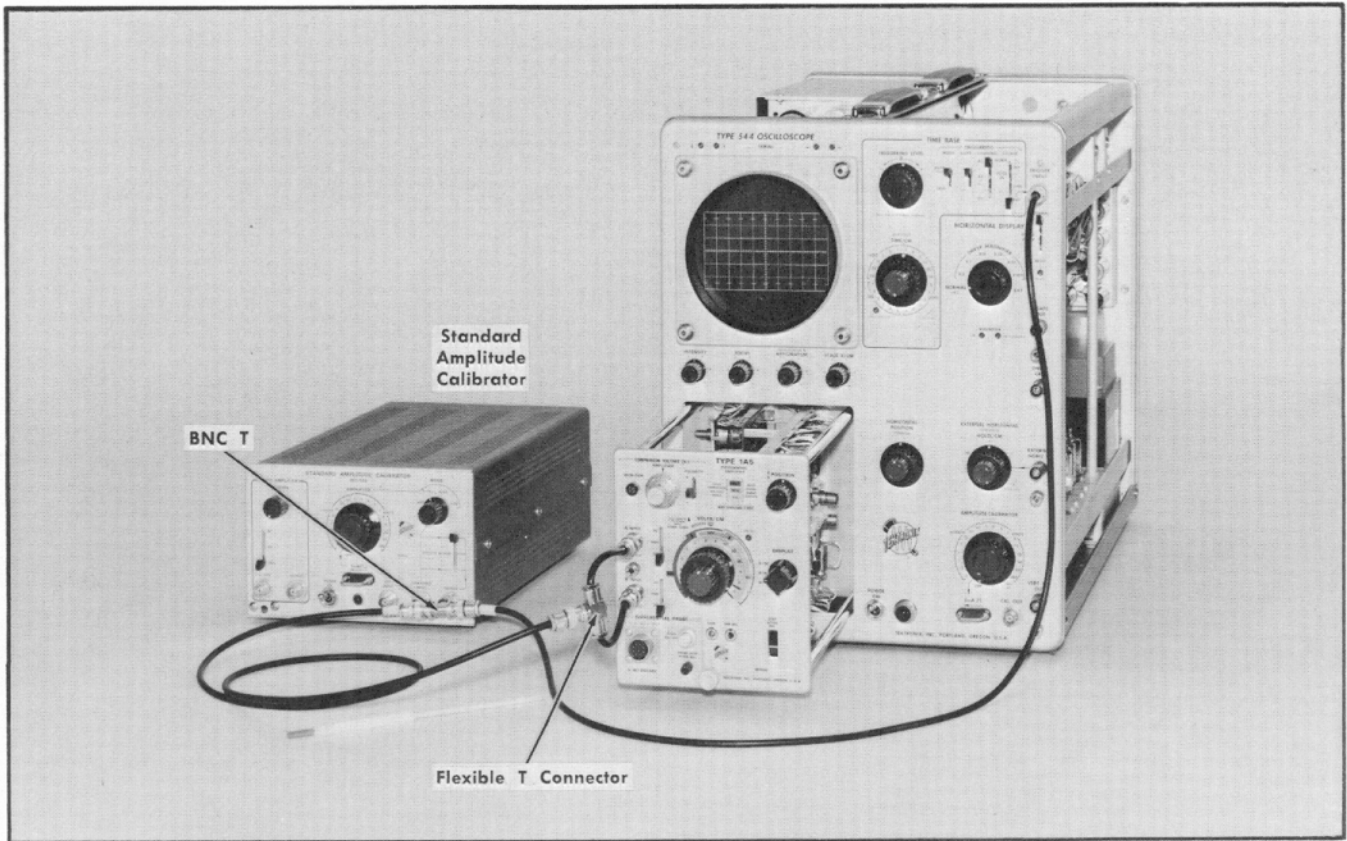
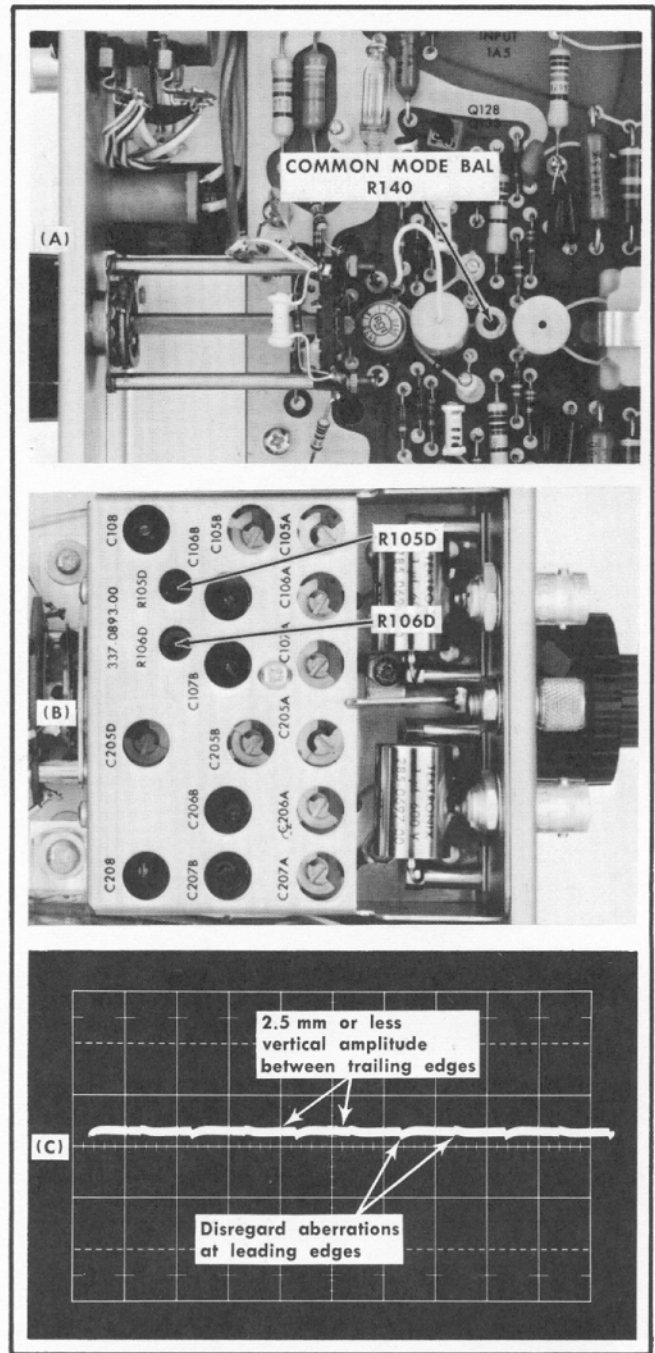

Fig. 6-13. Equipment setup for step 13.
Fig. 6-14. DC common-mode balance, step 13. (A) and (B) Adjustment locations; (C) Typical waveform. (Sweep rate 0.5 ms/cm; vertical sensitivity 1 mV/cm)
a. Equipment setup is shown in Fig. 6-13. Location of adjustments is shown in Fig. 6-14 (A) and (B). A typical adjustment waveform is shown in Fig. 6-14 (C).
b. Connect the two symmetrical ends of a flexible T connector (item 11) to the A and B INPUT connectors of the Type 1A5. Connect a BNC-T adapter (item 10) to the Standard Amplitude Calibrator square wave output connector. Connect a 50 Ω coaxial cable from the flexible T to the BNC-T adapter on the Standard Amplitude Calibrator. Connect a 50 Ω coaxial cable from the oscilloscope trigger Input connector to the BNC-T adapter on the Standard Amplitude Calibrator.
- i. ADJUST—COMMON MODE BAL (R140) for minimum amplitude between the trailing edges of the square waves (2.5 mm or less for 20,000:1 CMRR in $\times 1$ range). See Fig. 6-14 (C). Disregard aberrations that may exist near the leading edge of the square waves.
- k. ADJUST— $\times 10$ and $\times 100$ attenuator DC common-mode balance for the same results as in i. Equipment setups and adjustments are listed in Table 6-4. Refer to Fig. 6-14 (B) for location of adjustments. (2000:1 CMRR in $\times 10$ and $\times 100$ ranges.)